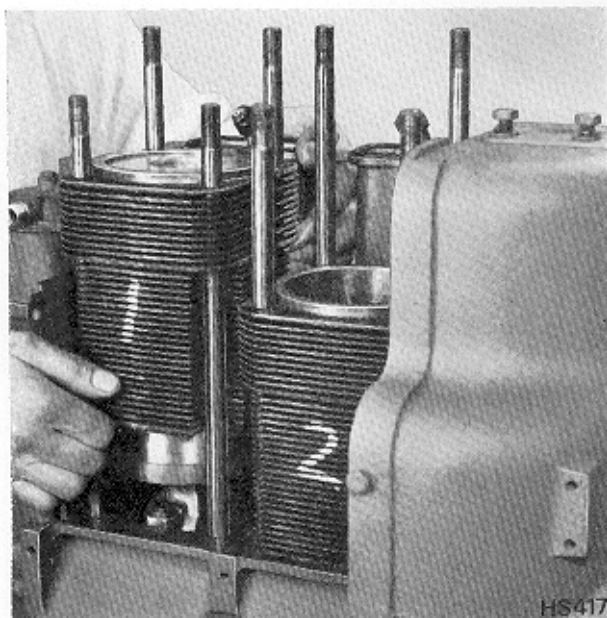

Fig. 51 Removing Cylinder Barrel
- (g) Mark position of barrel for refitting and remove piston, connecting rod and barrel as a complete unit (Fig. 51).